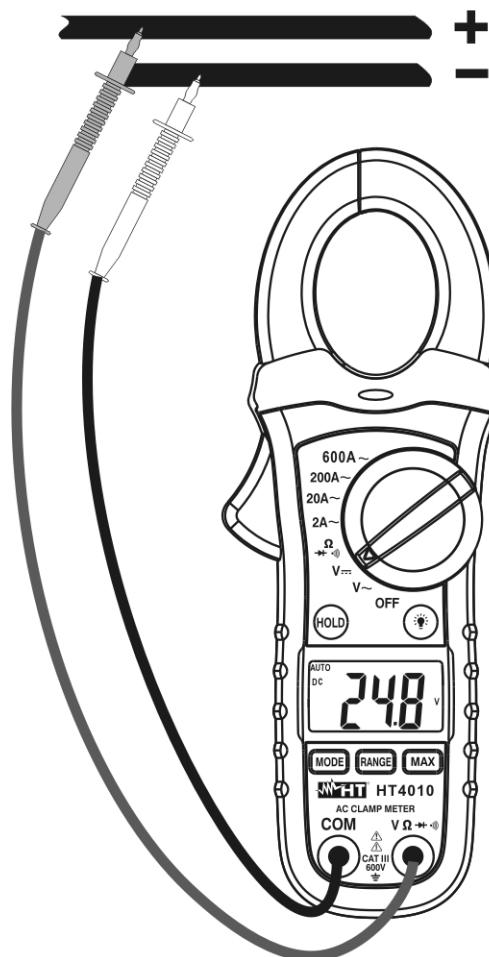

Fig. 2: Taking DC voltage measurement
4. Connect the two long ends of test leads to the desired circuit (see Fig. 2) then reading will be displayed
6. The “-“ symbol at display means that the voltage have an opposite sign respect the connection of Fig. 2)